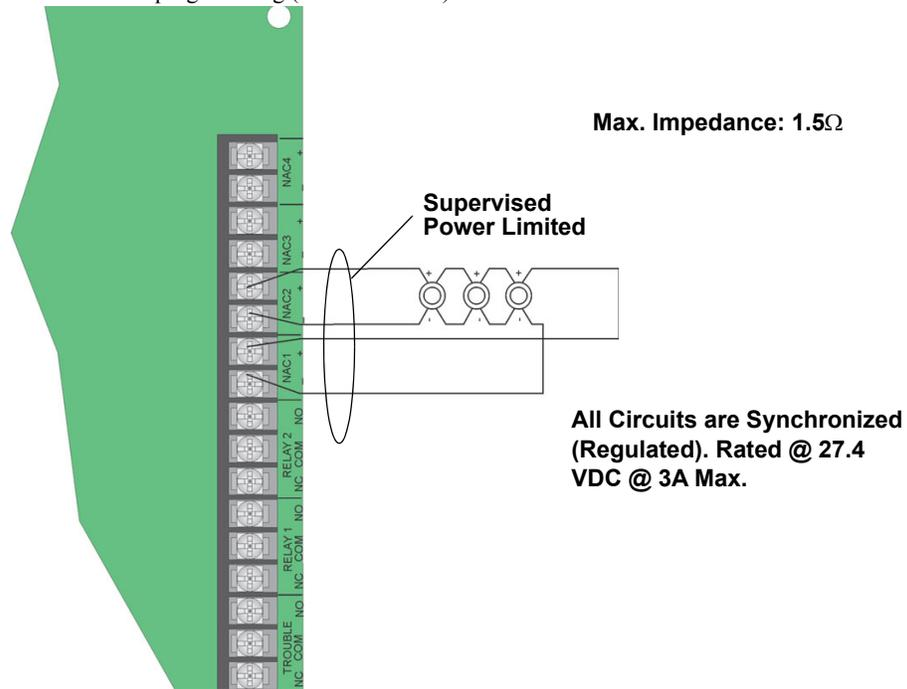

Figure 4.44 Class A Notification Appliance Circuit Configuration
- Wire the Class A notification appliances as shown in Figure 4.44.
1. Wire the NAC circuit(s) that will be used for auxiliary power. See Figure 4.44 for location of NAC circuits.